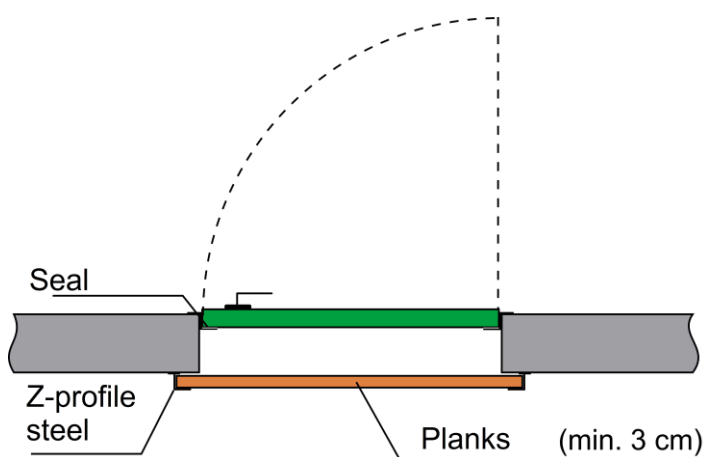

Figure 6 Pressure and impact protection for the door of the storage room
Doors and hatches should be constructed to be dust-proof (Figure 6). They must open outwards and need a dust-proof seal all the way around. Windows are usually already sealed by the manufacturer and have to be approved for this use (e.g. safety glass, since pressure peaks may occur). On the inside of the door frame, wooden or metal planks (bunker-boards) must be fitted to protect the door against the pressure from the mass of pellets. Locks should be dust-proof on the inside, so that the lock is not affected by pellet dust. The pellet supplier is not liable for damage or contamination caused by inadequate sealing.
- The injection pipe should have a straight end-section of at least 30 to 50 cm to overcome turbulence in the pellet stream that would lead to large scattering angles at the outlet. (See Figure 6).